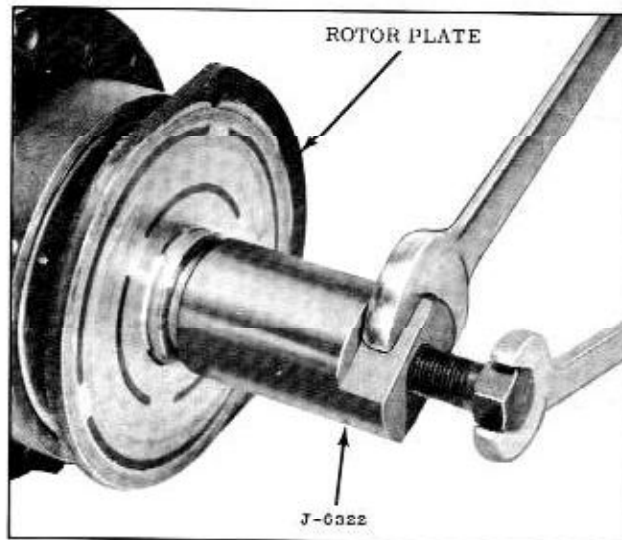

Fig. 14-23 Rotor Plate Removal
3. Thread Tool J-6322 onto hub of rotor plate. While holding the tool with a wrench, tighten the tool bolt to remove rotor plate. (Fig. 14-23) Remove Tool J-6322 from the rotor hub.